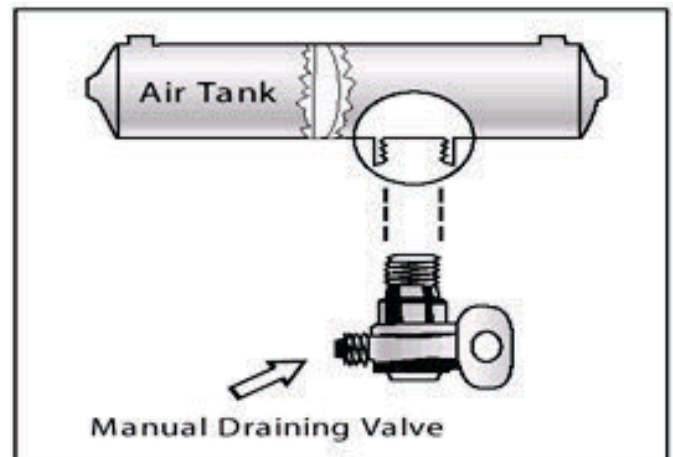

Figure 5.1
- ✓ Manually operated by turning a quarter turn or by pulling a handle. You must drain the tanks yourself at the end of each day of driving. See Figure 5.1.